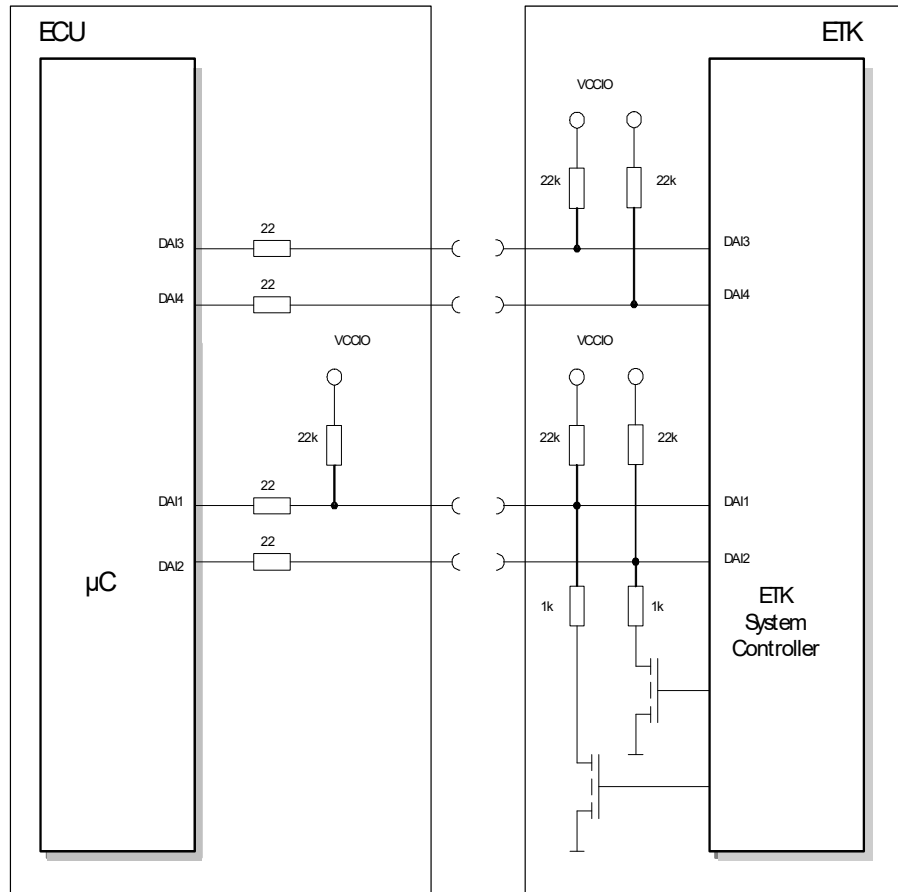

Fig. 4-11 Equivalent Circuitry of the DAI Interface
- 22 Ohm series resistors on each of the 4 DAI signals are recommended. A 22 kOhm pullup resistor on DAI1 (refer to Fig. 4-11) is required; internal CPU pullup may be used.
The required circuitry for the trigger lines DAI1 to DAI4 on the ECU is shown in Fig. 4-11 on page 31. The four hardware triggers are active low signals.